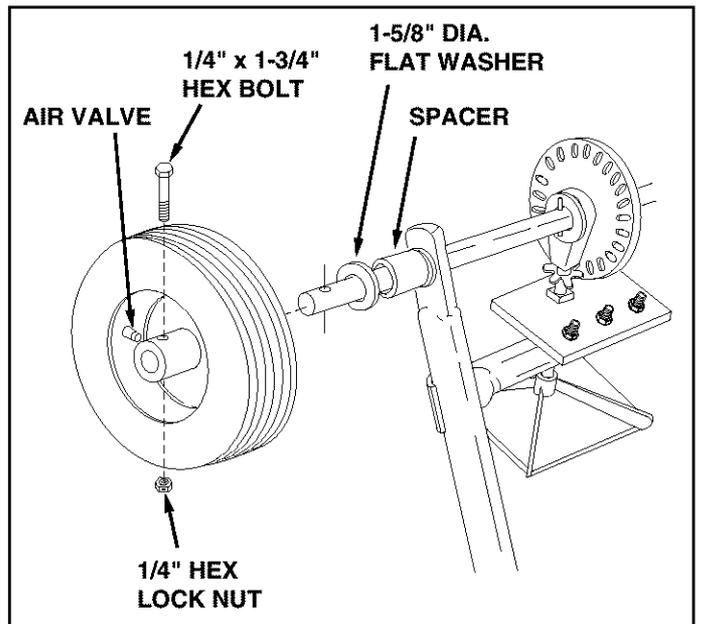

FIGURE 4
- Assemble a spacer and a 1-5/8" flat washer onto the end of the axle that has the large hole. See figure 4.
- Place a wheel (air valve facing out) onto the axle. Secure the wheel to the axle with a 1/4" x 1-3/4" hex bolt and a 1/4" hex lock nut. See figure 4.